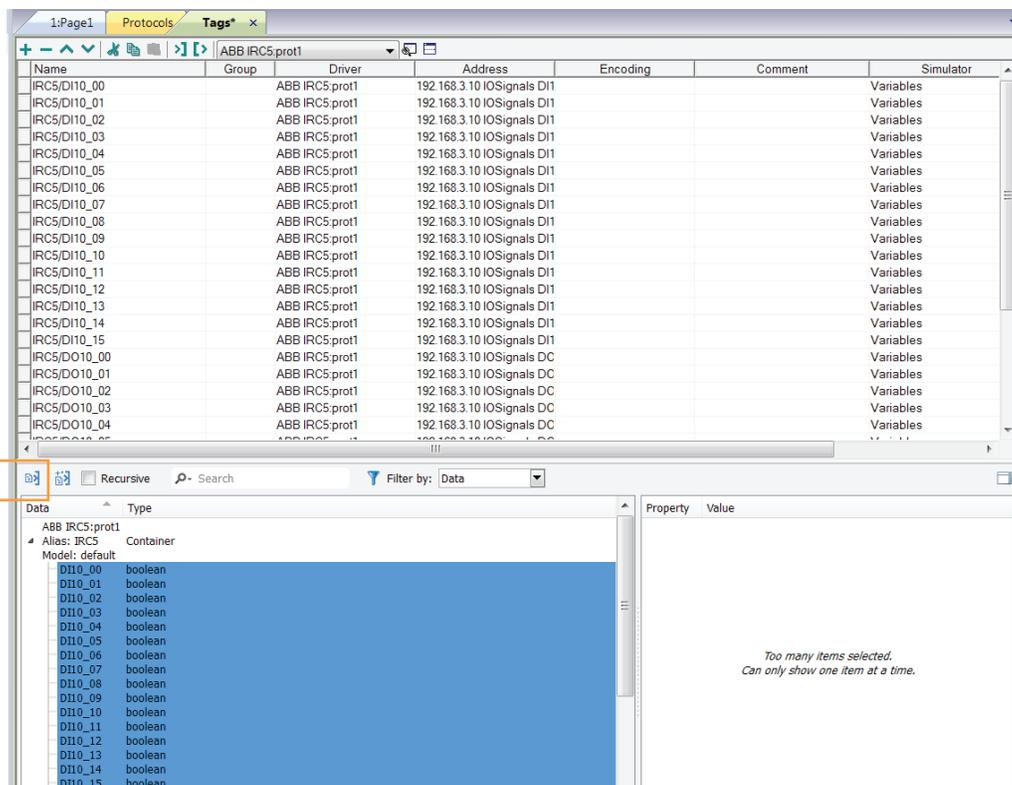

Figure 7- Import tags from the EIO Config file.
- Navigate to the EIO config file saved in step 3.9, and then click Open. All of the available tags from the IRC5 controller will appear in a list at the bottom of the Tags tab. Select one or more tags to import into your project and click the Import Tags button (Figure 7).